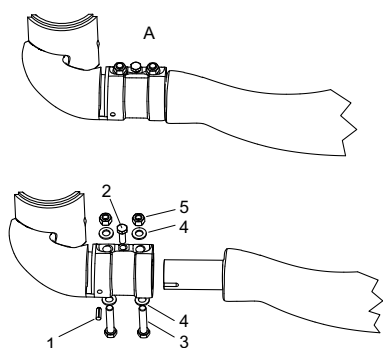

Fig. 12 SFG.xx.71 - 91
1. Check the premounted pins (1). These are only for positioning.
2. Tighten the screw (2) to widen the opening of the clamping jaws.
4. Remove the screw (2).
5. Put Loctite 243 threadlocker on the thread of the bolt (3).
7. Tighten the nuts (5) with a torque wrench to 74 lbf (100 Nm) (A4-80).
8. Check visually that the blade actually looks like position A in fig. 12.